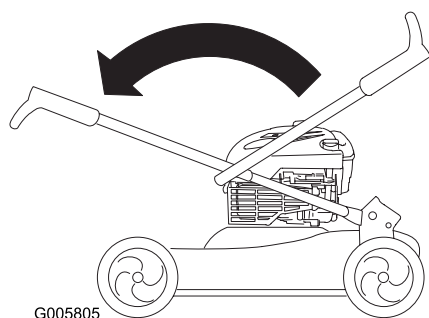

Figure 3
1. Carefully move the upper handle forward until the handle halves are in line and nest together as shown (Figure 3).